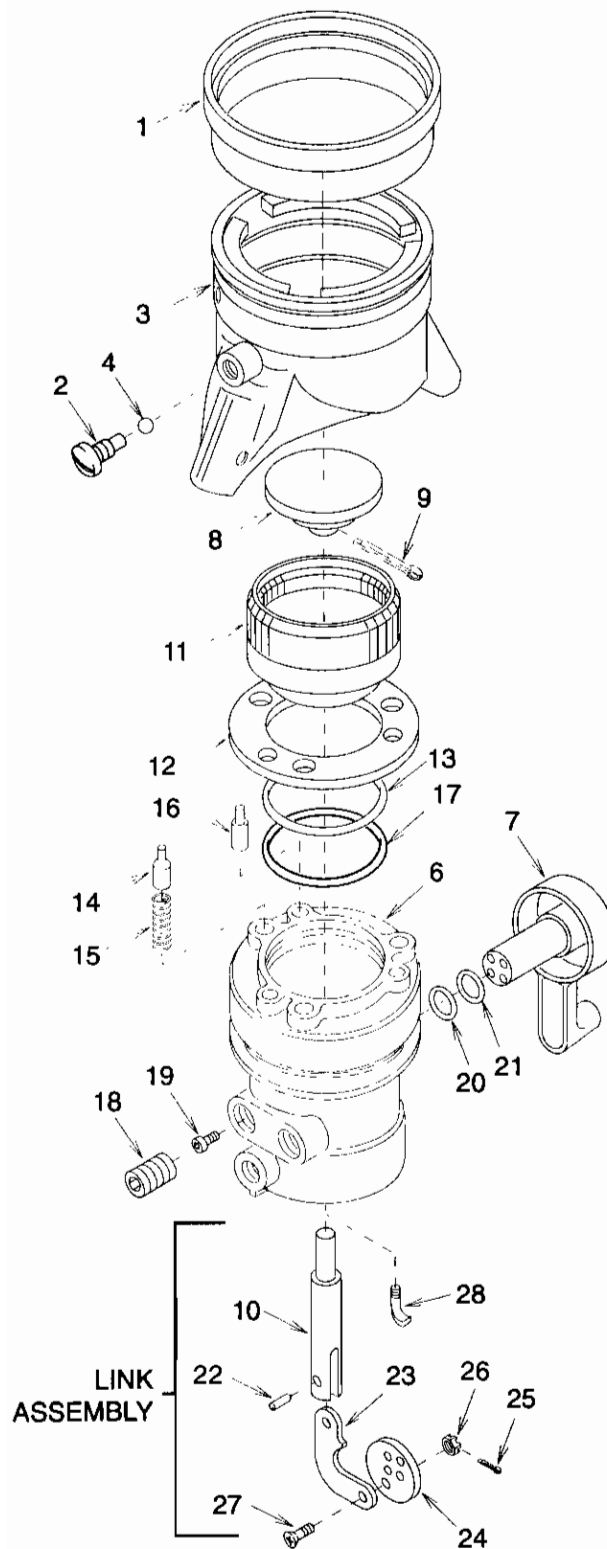

Figure 5-1. Nozzle Body
- (1) Wash all metal parts with dry cleaning solvent.
- (2) Dry thoroughly with clean, lint free cloth.
- (3) Be sure that continuity clip hole is clean and free of all debris.
- (4) Inspect all metal parts for dings, gouges, abrasion, etc.
- c. Assembly (See figure 5-1.)